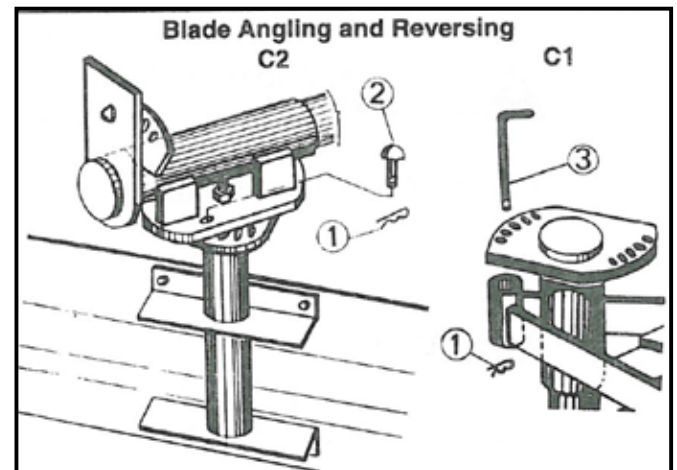

FIGURE 2
The blade may be angled 360 and can be held at 0, 30, or 45 to left or right for forward grading and 0 or 15 to left or right for back filling without unhooking from the tractor. To angle blade, raise it a few inches above the ground by operating the lift control lever of the tractor. Remove the lift control lever of the tractor. Remove the bridge pin (1) and index pin (2) (for the C2) or the spring pin (3) (for the C1). (Figure 2)
The blade is reversible without removing from tractor. To reverse the blade, raise it off the ground, remove the spring pin (1) and index pin (2). Swing the blade to desired position and replace pins. (Figure 2) **NOTE: 1. Drawbar may have to be removed on some tractors. 2. In some cases it may be necessary to remove the blade from the tractor.**